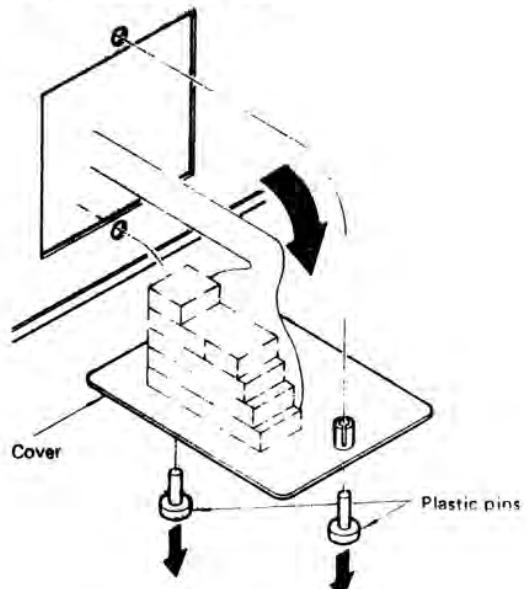

Figure 1
- (1) Remove the small cover from the bottom of the receiver, as shown in Fig. 1.
2. Referring to Figure 1, fix the supplied mounting angle to the FF -5 with the screws removed in Step 1.